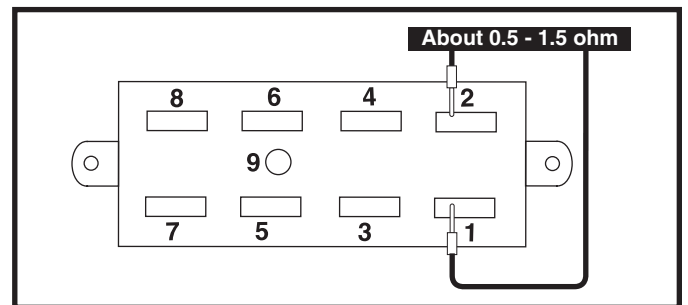

Figure 31. Connector 2a
2. Measure resistance across pin 1 and pin 2 on connector 2a. **See figure 31.**
- If your multimeter indicates 0.5 - 1.5 ohms, then replace the VSI controller (1) and retest the system.